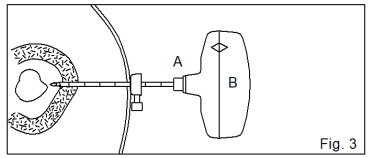

Fig. 3
**FIG. 3** With careful but firm turns, rotate the Cutting Cannula and Stylet (A+B) clockwise until the depth gauge reaches the skin and/or desired position is obtained.